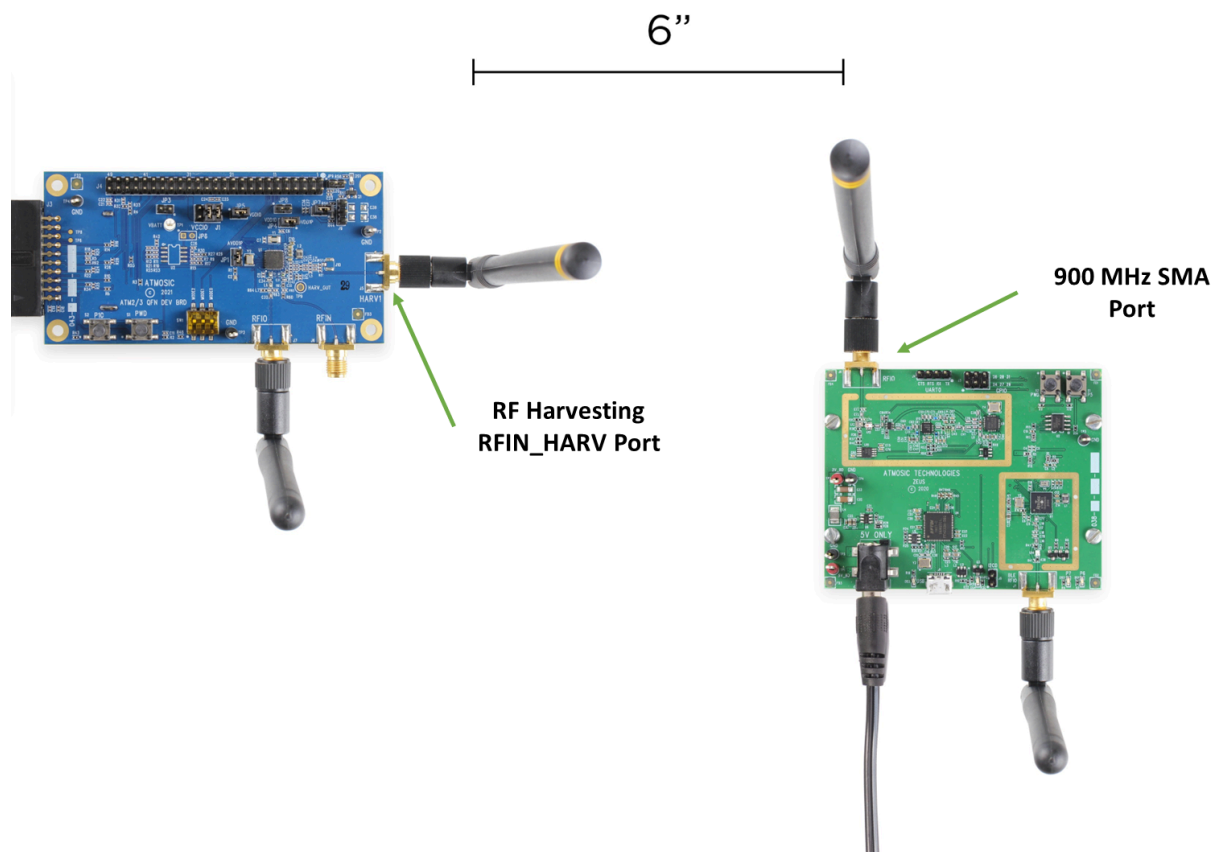

Figure 8 - EVK Setup with Transmitter Board
- Figure 8 - EVK Setup with Transmitter Board
The RF Source Transmitter board has two main chips on it. One is Si446x which is used to transmit RF power to charge the EVB. The other is ATM32xx Bluetooth LE chip which is used to communicate with the EVK if desired (see Dynamic RF Source Control section). The RF Source Transmitter board is powered from a 5 V adapter. A 900-MHz whip antenna (with two yellow stripes) should be attached to the RFIO SMA port as well as the RFIN_HARV port of ATM32xx EVB, as shown in Figure 8. Please align the two antennas for optimal performance.